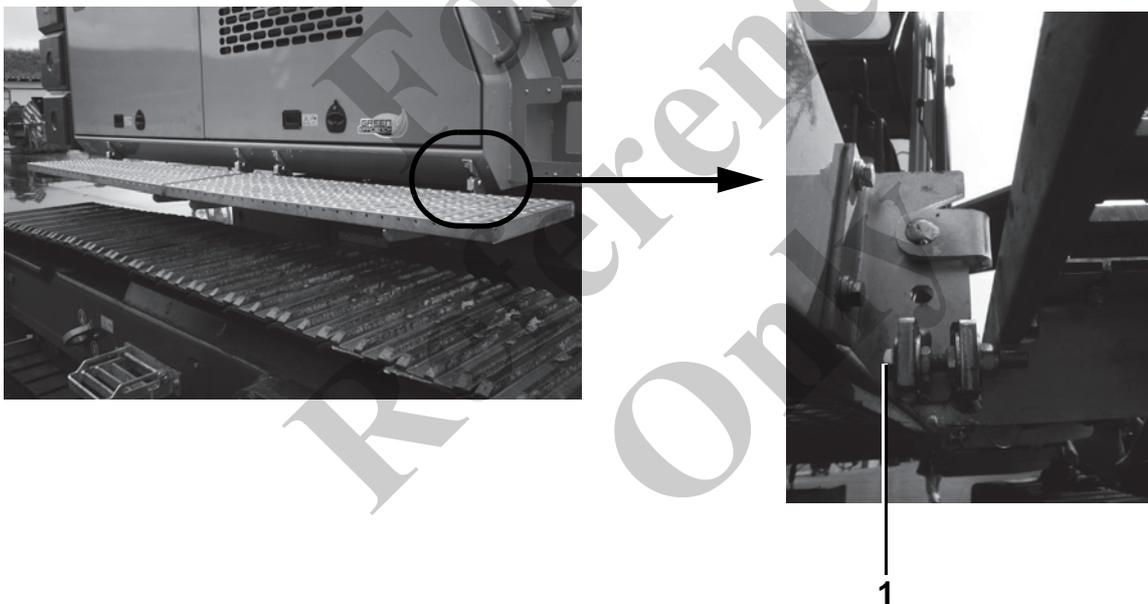

Fig. 142 Mounting walkways
2	Screw the walkway to the frame (1) in Fig. 142. Observe the permitted tightening torque of the screws.